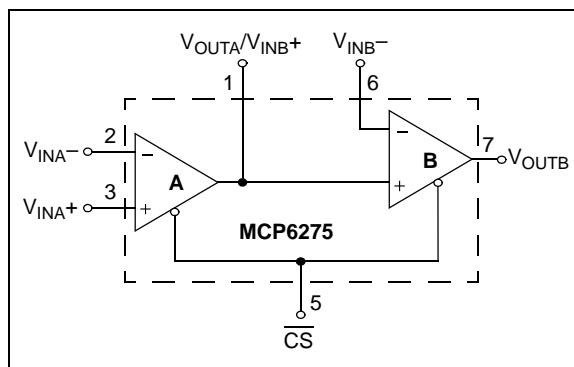

FIGURE 4-5: Cascaded Gain Amplifier.
The MCP6275 is a dual op amp with Chip Select (CS). The Chip Select input is available on what would be the non-inverting input of a standard dual op amp (pin 5). This pin is available because the output of op amp A connects to the non-inverting input of op amp B, as shown in Figure 4-5. The Chip Select input, which can be connected to a microcontroller I/O line, puts the device in low power mode. Refer to Section 4.4 "MCP6273/5 Chip Select (CS)".